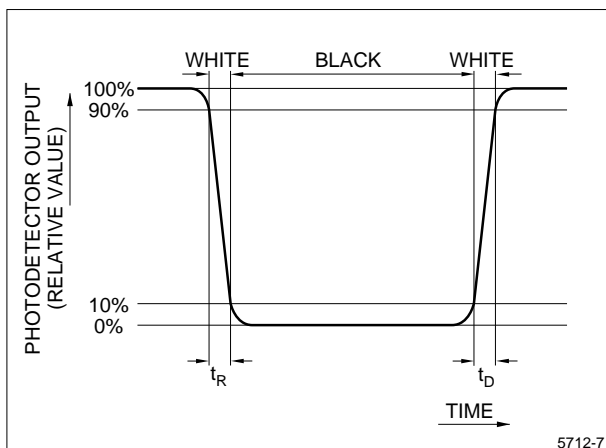

Figure 6. Definition of Response Time
- The Response Time is measured as shown in Figure 6 by switching the input signals for 'black' ON and OFF.